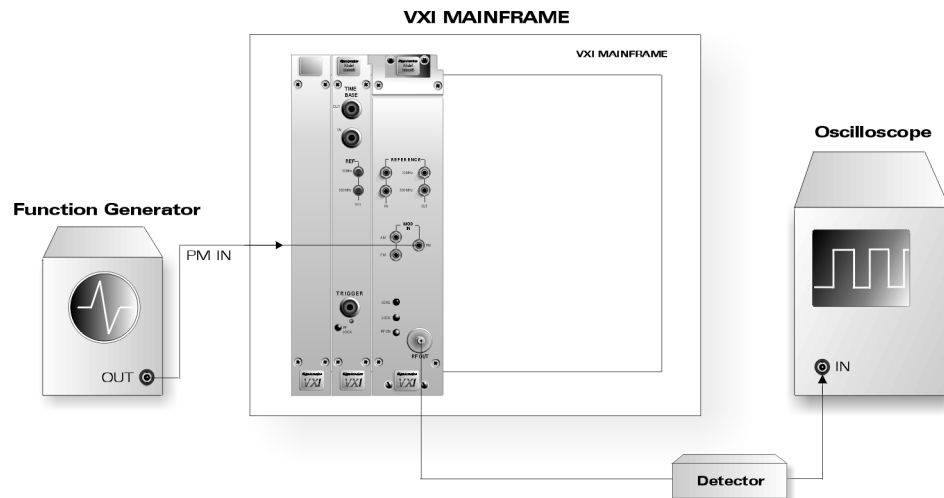

Figure 4-8: Pulse Modulation Overshoot
1. Connect the equipment as shown in Figure 4-8. The cable from the detector to the oscilloscope should be kept as short as possible.